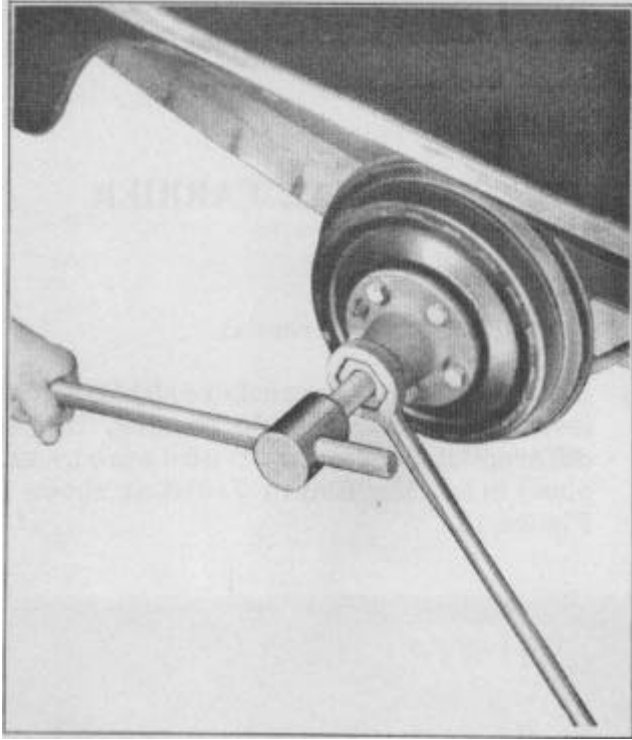

FIGURE 8
2. Remove hub and drum by means of hub puller J-736 as shown in Figure 8. (Do not strike the end of the axle shaft to loosen the hub because of possible damage to the bearing and the center drive shaft thrust spacer).